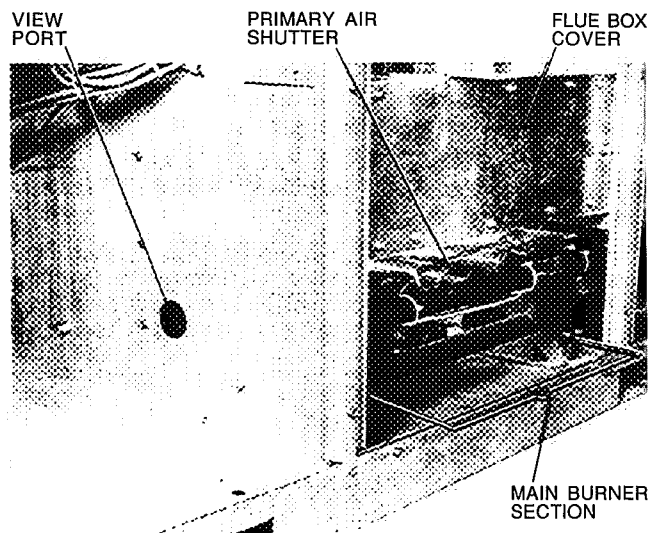

Fig. 38 — Typical Heating Section
5. With a small screwdriver, turn adjustment screw until flame fully engulfs sensor. Flame can be observed through view port (Fig. 38).
4. Loosen primary air shutter (Fig. 38) and adjust to a minimum opening of 5/8 inch.